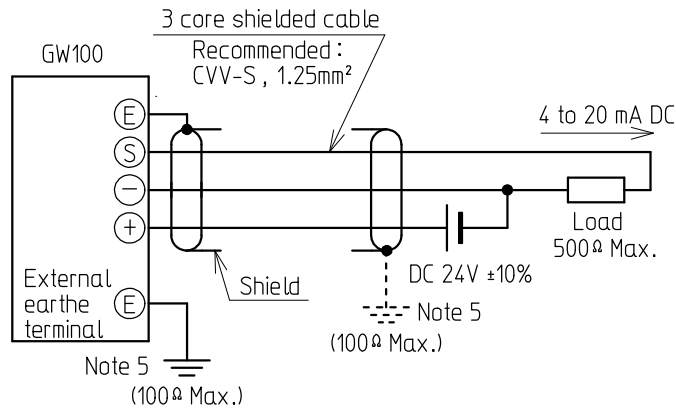

Fig. 6-1: GW100
- (1) Wire as shown in Figs. 6-1 to 6-3. Use a suitable screwdriver to tighten the terminal screws. Terminal screws are of M4. Use cable lugs of R1.25-4 or equivalent size. (Recommended torque: 1.2Nm for sensor terminals and the external earth terminal)